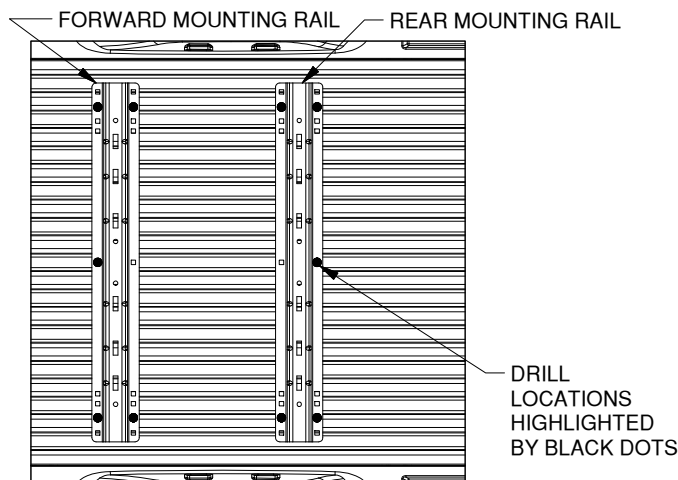

Figure B2: Detail view over bed, showing drill locations for the forward and rear mounting rails.
2. **Mark hole locations.** While carefully ensuring the mounting rail does not move, use a center punch tool to mark the 5 drill locations on the rear rail. See Figure B2 for hole marking locations for this installation (forward rails will install in a later step). Once all 5 rear rail locations are clearly marked, move the bed rail out of the way and drill each location with an 1/8" drill bit.
4. **Drill forward mounting holes.** Using the same methods as used for the rear mounting rail, mark, drill, check, and enlarge the holes for the forward mounting rail. Start at "DRILL REAR MOUNTING HOLES" section, Step 2, on a previous page. Notice that the hole locations are slightly different than the rear rail, see Figure B2 (on the third page).